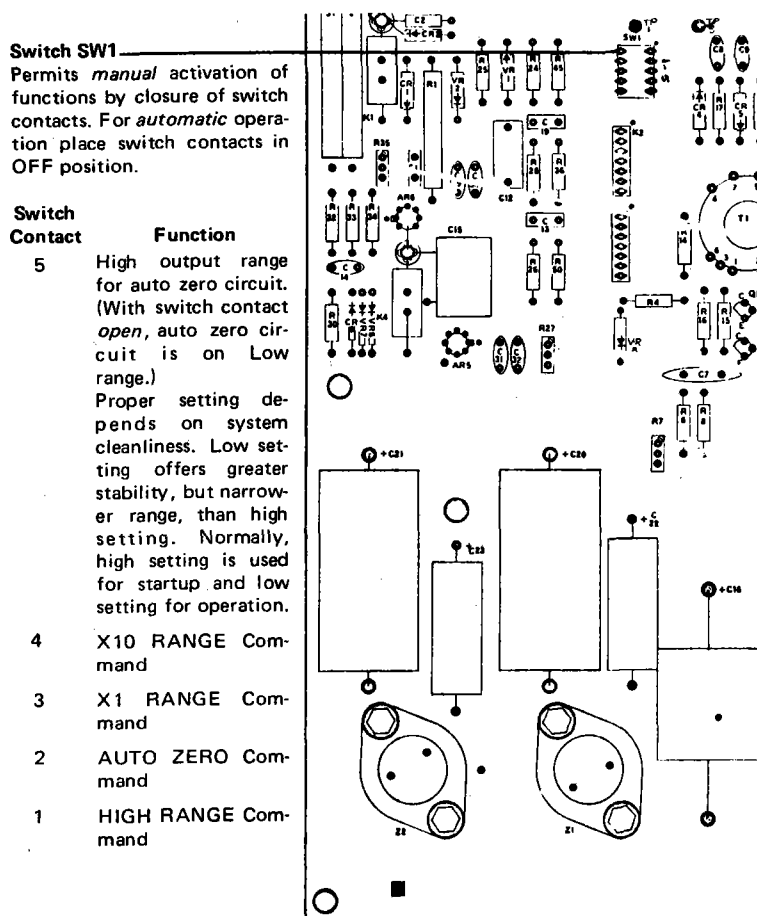

Figure 3-3. FID Electronics Board Assembly
3. On FID Electronics Board, Figure 3-3, disconnect high-impedance amplifier-input cable from AR1. Observe precaution tag on cable to prevent damage to field-effect transistor on amplifier circuit board.
Depending on detector type, the oven temperature control section is located on either the TC Detector Electronics Board, Figure 3-2, or the FID Electronics Board, Figure 3-3.
The following adjustments are made at the analyzer, in the signal conditioning section of the FID Electronics Board Assembly, Figure 3-3.
In Figure 3-3, Page 16, the correspondence between the numbered switch contacts on SW1 and the various manually activated functions is incorrect. The correct relationship is as follows: